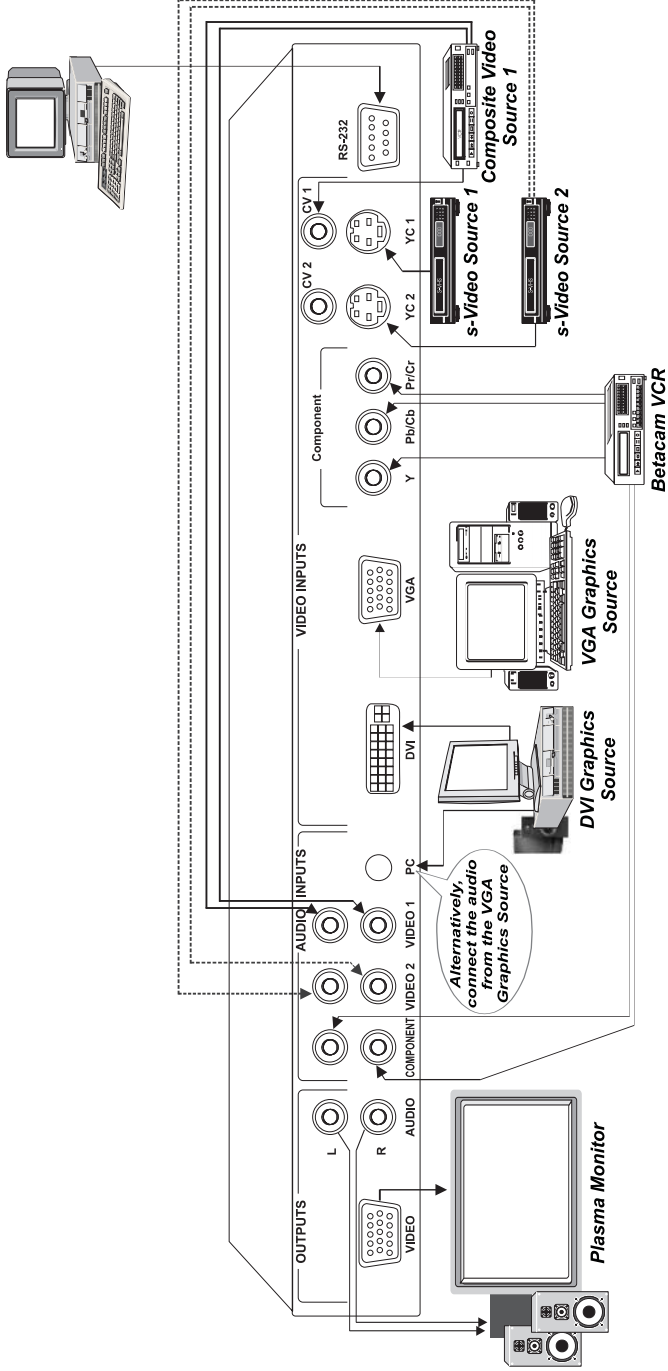

Figure 3: Connecting the VP-719DS Rear Panel
To connect the **VP-719DS**, connect the following² to the rear panel, as the example in Figure 3 illustrates:
- A component video source⁴, for example, a Betacam VCR (as illustrated in Figure 3), to the 3 RCA connectors, Y, P_b/C_b, and P_r/C_r⁵
2. Connect the stereo audio sources, as illustrated in Figure 3. In particular:
3 Connection to CV 2 is not shown in the example in Figure 3
5 Alternatively, you can connect an RGB signal (not shown in Figure 3), as follows: RED to the “Y” connector, GREEN to the “Pb/Cb” connector, and BLUE to the “Pr/Cr” connector
6 Alternatively, you can connect a YUV signal to the HD15 connector (not shown in Figure 3), by connecting the “Y” connector to PIN 1, the “Pb/Cb” connector to PIN 2, and the “Pr/Cr” connector to PIN 3
illustrated in Figure 3)
3. Connect the VIDEO OUTPUT HD15F connector to the video acceptor, for example, a projector or a Plasma monitor (as shown in Figure 3), and connect the AUDIO OUTPUT pair of RCA connectors to the audio acceptor, for example, a power amplifier.
4. The power cord (the power connector is not illustrated in Figure 3).